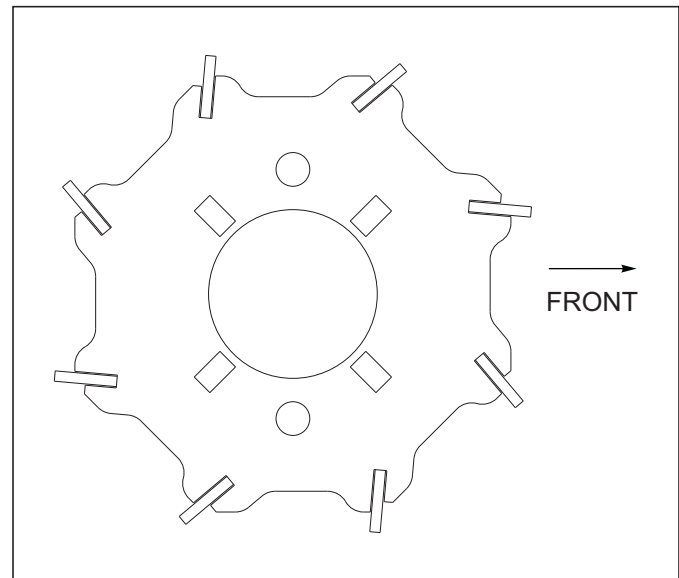

Figure 4-18: Flat Reel
5. The 12" diameter reel consists of nine 3/4" diameter round bars with a chevron shape for smoother rotation. The reels have no inner shaft to reduce plugging in wetter conditions. The reels operate independently of the 3 row spike with two spring loaded arms per reel to maintain consistent down pressure. A 12" diameter spiral wound reel with 1/4 s 1-1/2 angled blades is also available. The blades on flat bar reels are angled for more aggressive action. Install the reels as shown (**See Figure 4-18**).